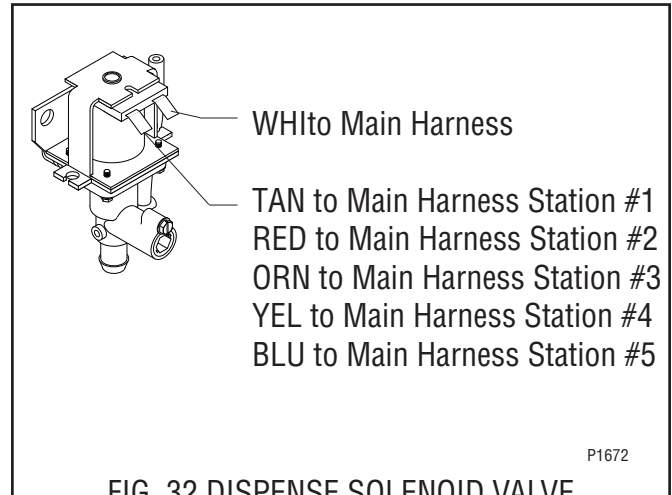

FIG. 32 DISPENSE SOLENOID VALVE
If continuity is present as described, reconnect the wires to the solenoid (see Fig. 32), proceed to #6
9. Refer to Fig. 32 and reconnect the wires.